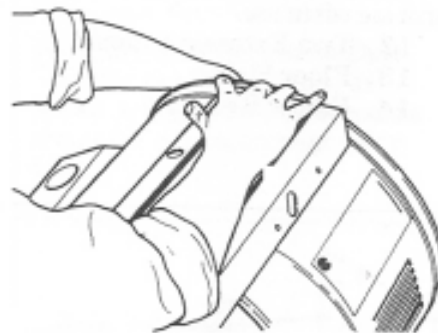

Figure 5: Support the left leg as you attach it to the Main Housing. The narrower side faces toward the front (3-hose inlet) side.
2. Locate the three holes on the top of the housing. Position the left leg (39) over the three holes, making sure the narrower side of the leg faces the front toward the 3-way inlet. (See Figure 5). Attach the left leg to the housing with screws (41), lock washers
(42) and nuts (43), starting at the top hole. Hand tighten all three nuts.